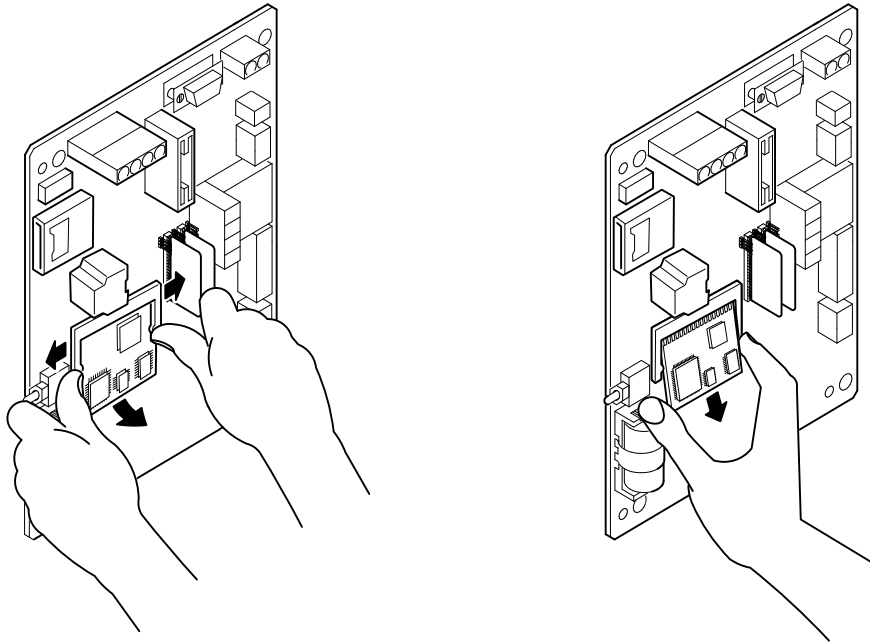

Figure 90: CPU Engine Card Removal
11. Pull the engine card out (Figure 90).